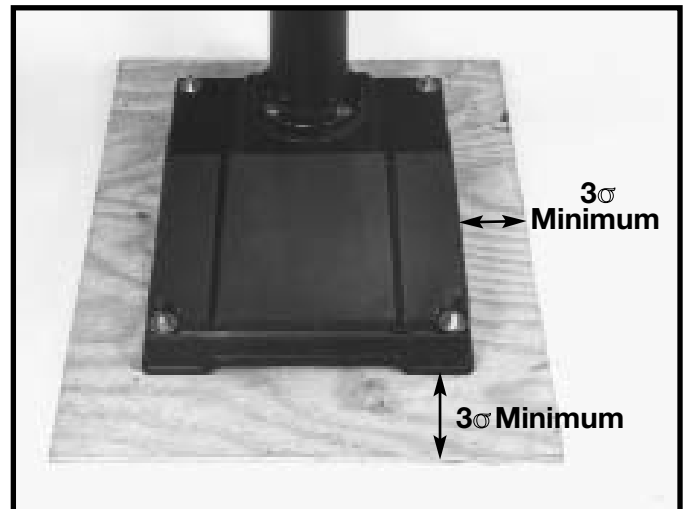

Fig. 18
3. When the drill press is mounted to the supporting board, the board must extend a minimum of 3 beyond each edge of the drill press base, as shown in Fig. 18.